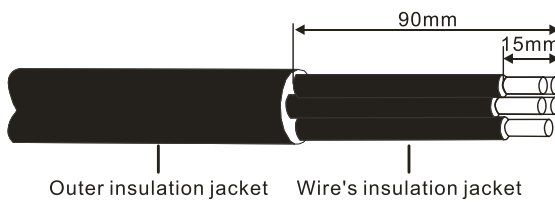

Figure3-21 Strip wire
Step 2 Strip the outer insulation jacket of AC wire for about 90mm and the insulation jacket of wire for about 15mm, as show in Figure3-21.